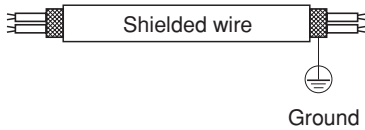

Fig. 6-3
- Use shielded wires for remote control wiring and ground the shield on one side. (Fig. 6-3) Otherwise misoperation due to noise may occur.